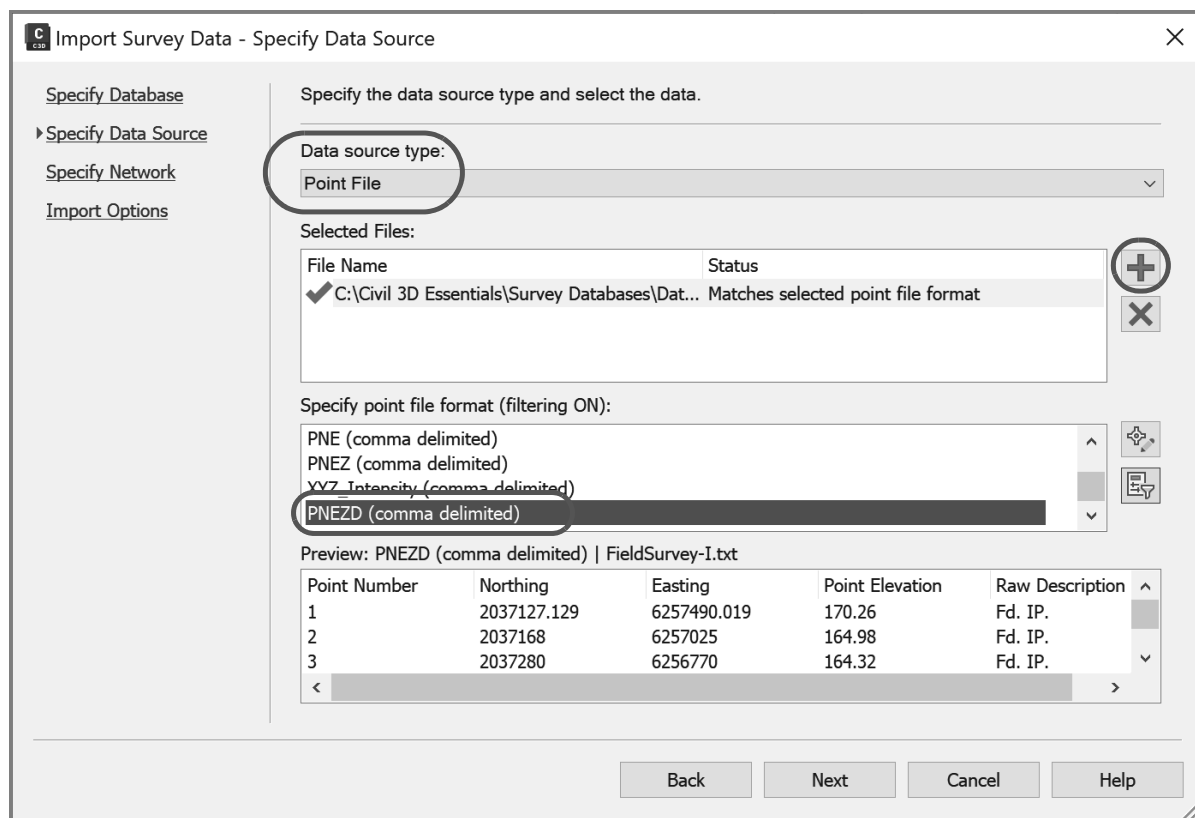

Figure 2–47
14. On the *Import Options* page, select **Process linework during import**, **Insert figure objects**, and **Insert survey points**, as shown in Figure 2–48. Click **Finish**.